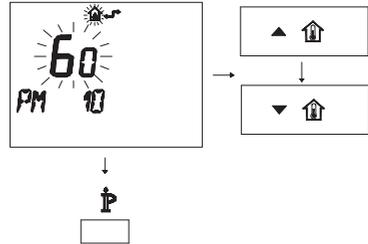

Fig. 7.39
- To modify the programmed SET, act on buttons **▲** **⬆** or **▼** **⬆** and wait for the number programmed to flash (Fig. 7.39).